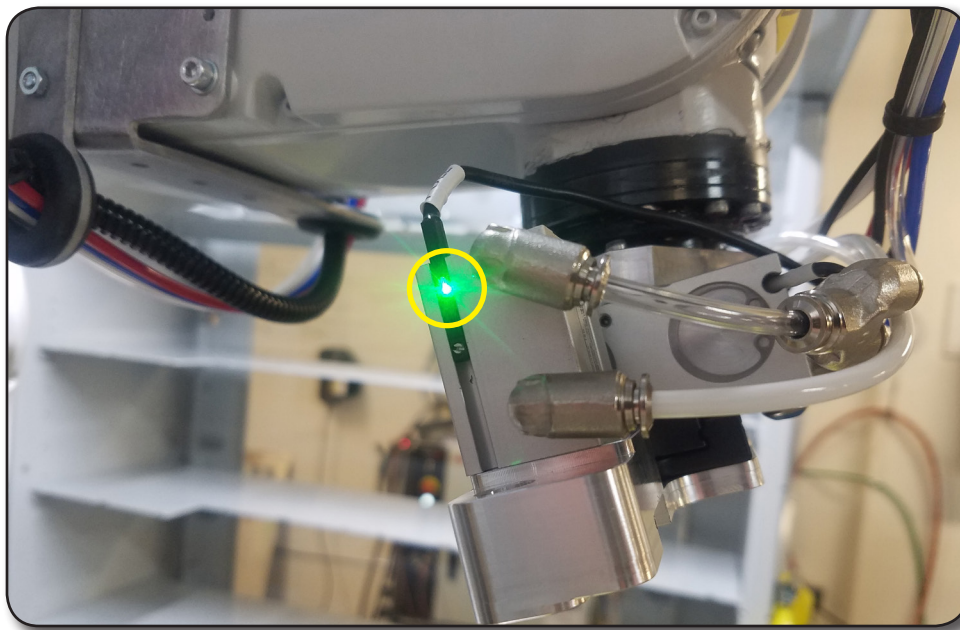

FIGURE 6 ILLUMINATED PULL CYLINDER SENSOR
- f. If the sensor does illuminate (as shown in Figure 6) the sensor needs to be adjusted.